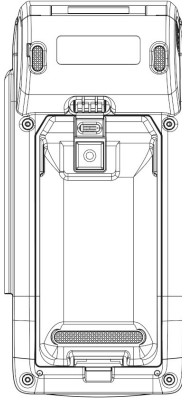

Figure 8
STEP 1: Push the battery latch to pull the battery from AT-100 as Figure 8.